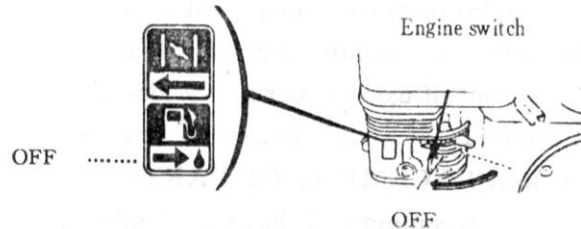

Fig. 21
2. Set the fuel switch to “OFF” (Fig. 21).